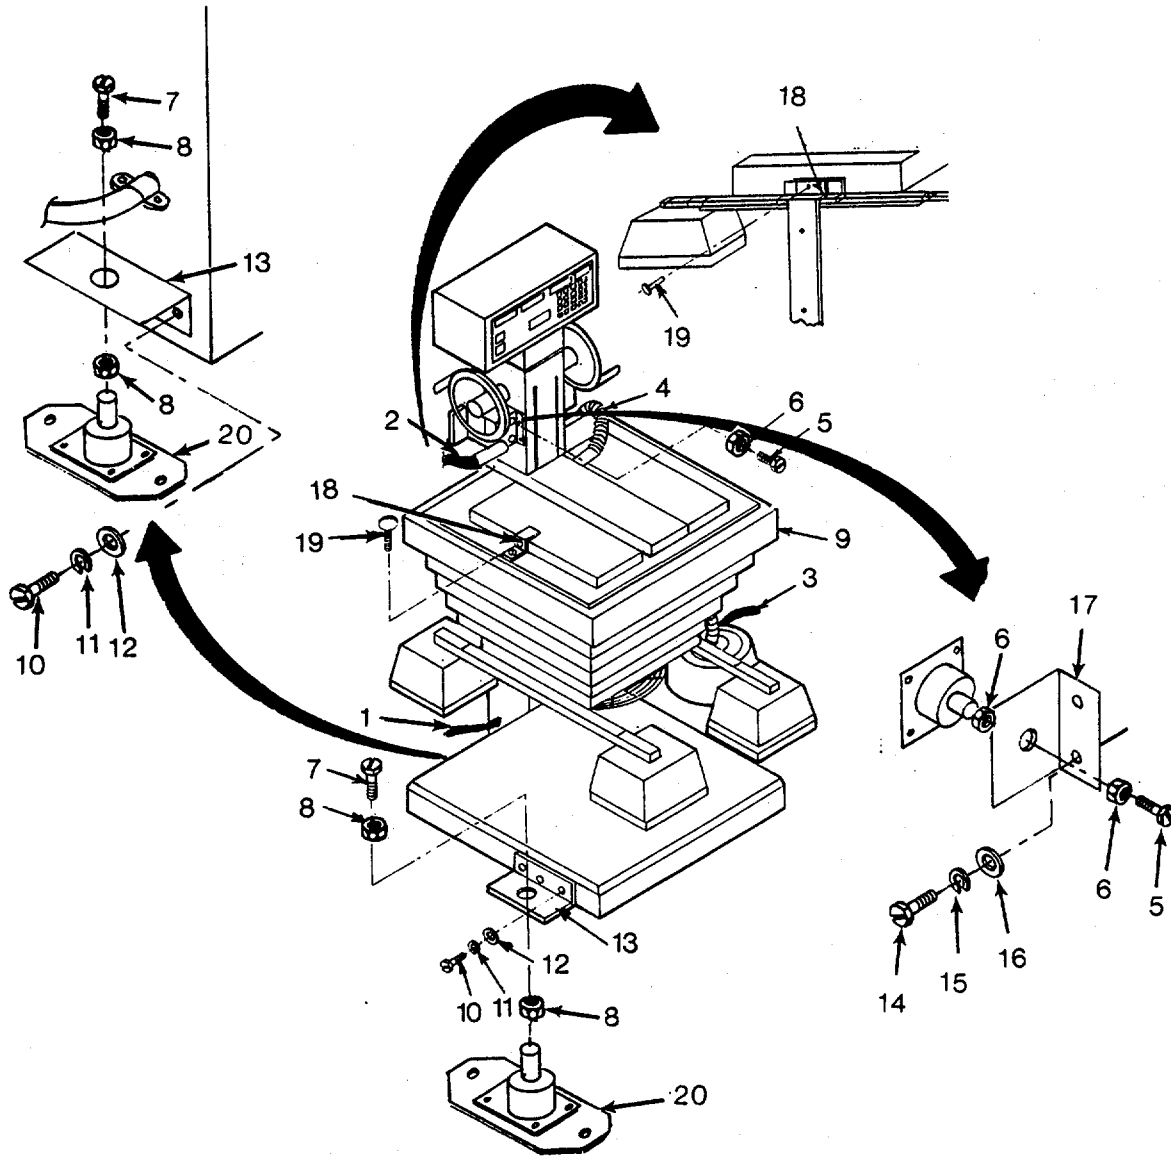

Figure 4-10. Vertical Camera and Mounting Assembly
- a. Inspect. (See Figure 4-10.)
- b. Replace. (See Figure 4-10.)
- (1) Vertical camera. (See Figure 4-10.)